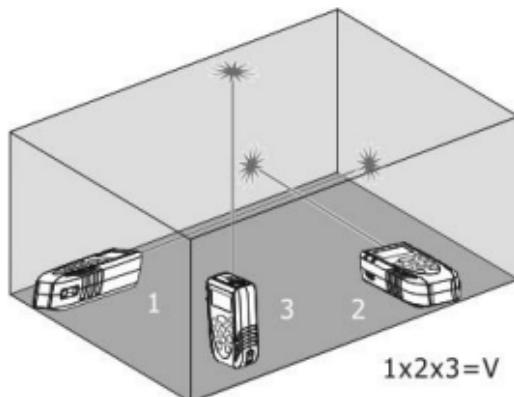

Fig. 6: Example of volume measurement
3. Press the key to perform the first measurement (length) of the surface (see Fig. 6). The corresponding value appears on the first partial display. The symbol "" appears on the display with side "1" flashing
4. Press the key again to perform the second measurement (width) of the surface (see Fig. 6). The corresponding value appears on the second partial display. The value of the corresponding area is shown in the resulting display. The symbol "" appears on the display with side "2"
5. Press the  key again to perform the third measurement (height) (see Fig. 6). The total value of volume is shown in the main resulting display